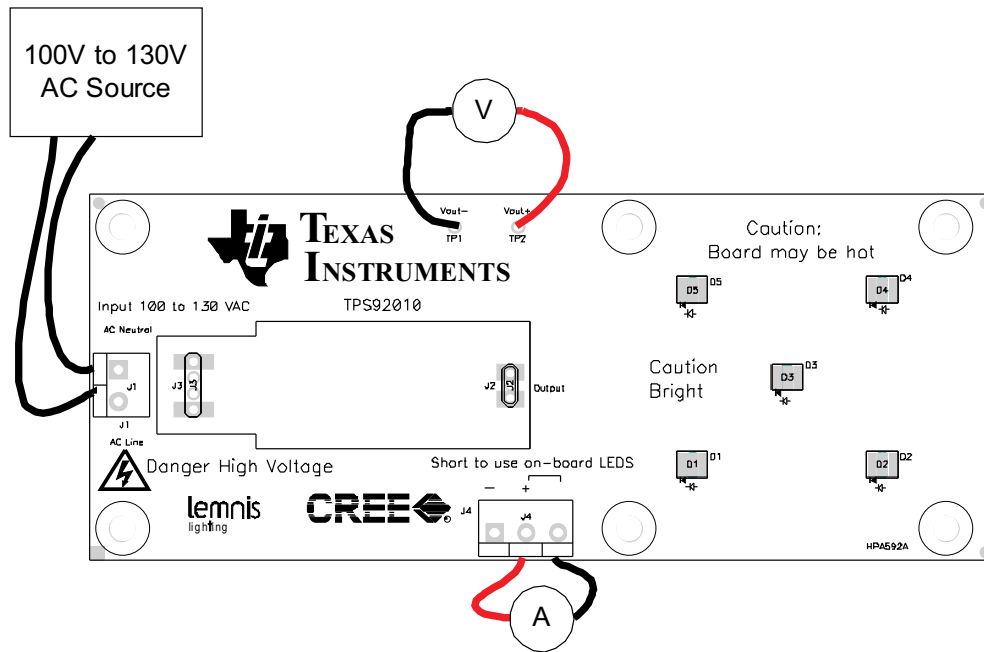
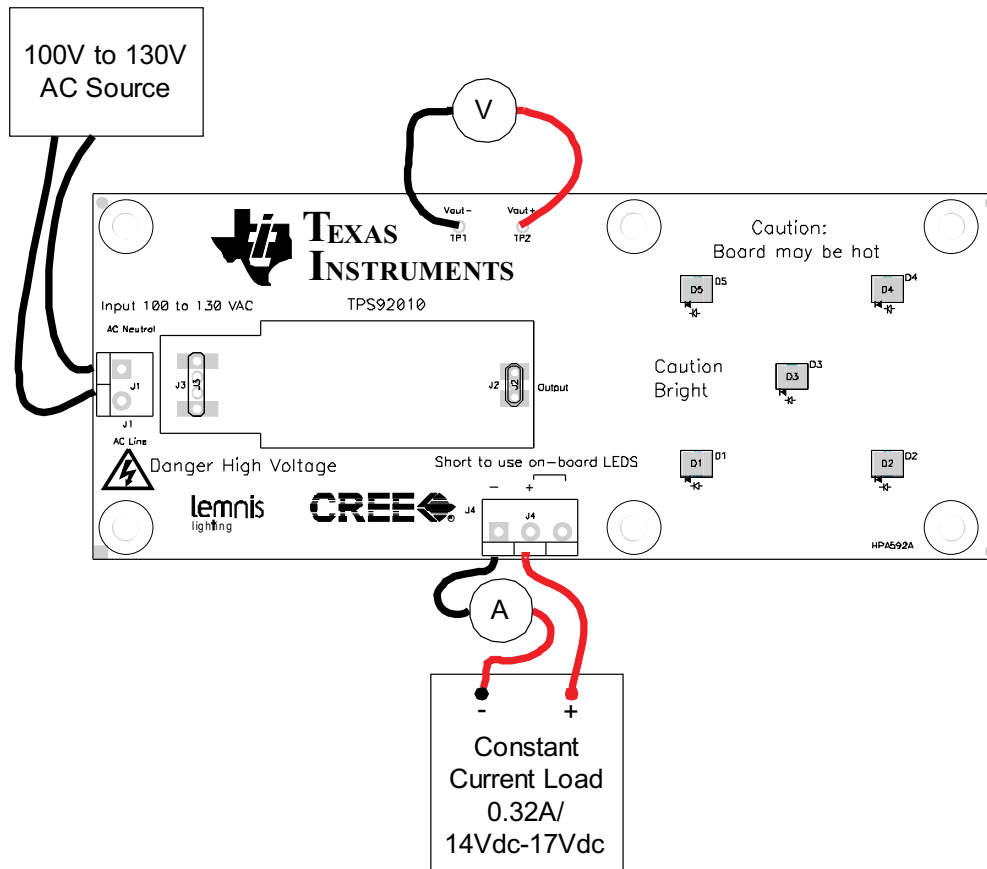

Figure 4. Recommended Test Set-Up Using Internal Load
Figure 5. Recommended Test Set-Up using External Load
To validate the EVM with an external load, pins 1 and 2 of J4 should be used. Any short between pins 2 and 3 should be removed to avoid damaging the EVM. See Figure 5.
1. Connect EVM per Figure 4 or Figure 5 .
7. Shutdown equipment per Figure 5 .
1. Set up the EVM per Figure 4 or Figure 5.